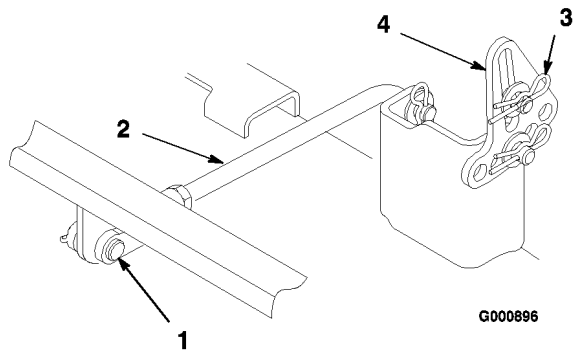

Figure 51
6. Remove the hairpin cotter and clevis pin from the rear trunion rod (Figure 51) on each side of the mower.
7. Remove the hairpin cotter and washer at the mower leveling brackets (Figure 51) on each side of the mower. Note which hole the leveling bracket is mounted in for future installation. Slide the brackets off of the mounting pin.
6. Attach the rear trunion rod to the tractor with the clevis pin and hairpin cotter (Figure 51) on each side of the mower.
7. Slide the leveling brackets onto the mounting pins and secure them with the washers and hairpin cotters (Figure 51).